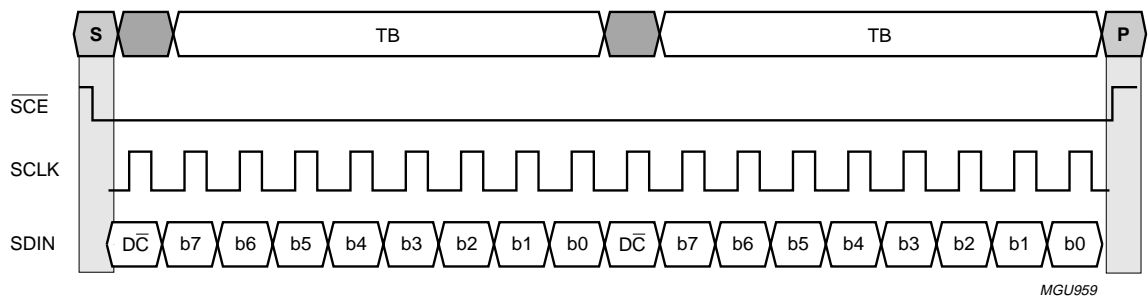

Fig.43 Serial bus protocol, write to register with control bit in transmission (PS[2:0] = XX0).
- If \overline{SCE} stays LOW after the last bit of a data/command byte, the serial interface will receive the D/\overline{C} bit of the next byte at the next rising edge of SCLK (see Fig.43).